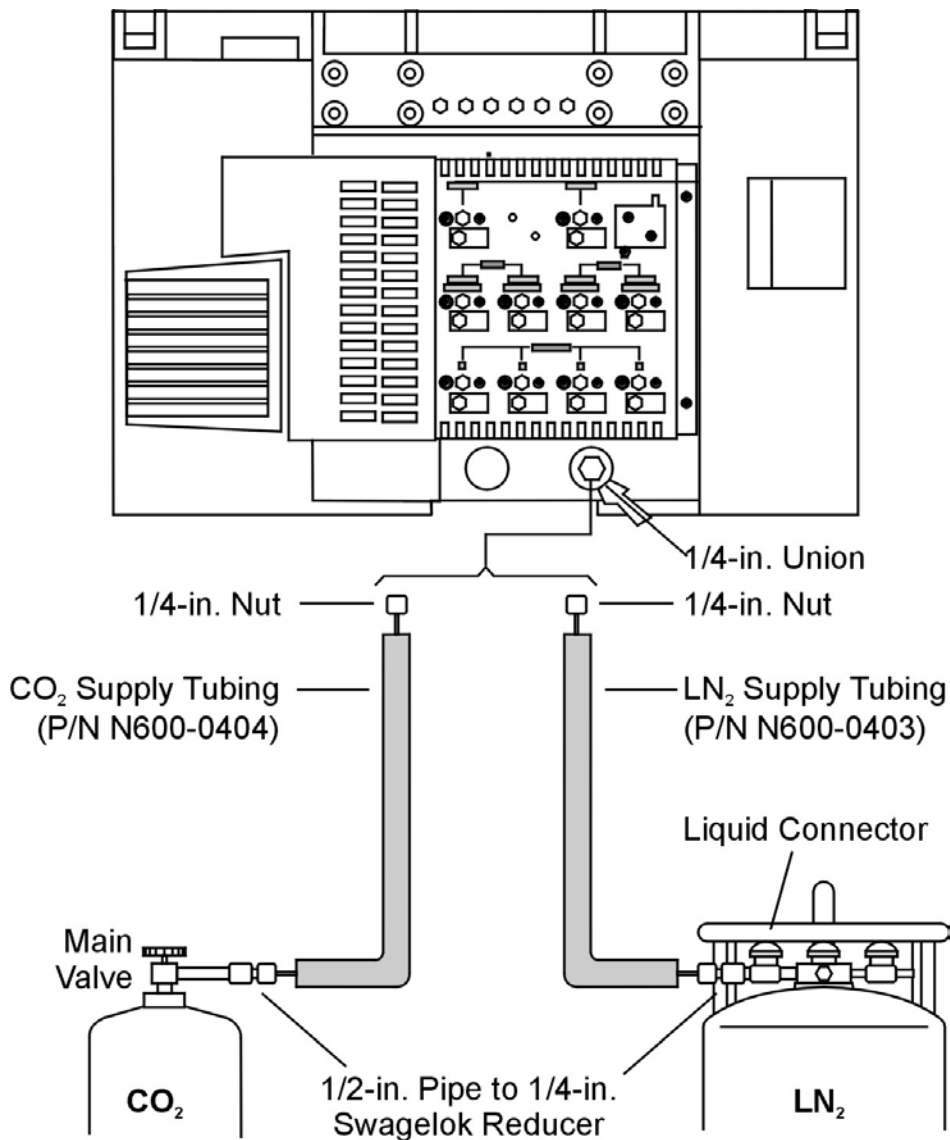

Figure 22. Connecting the CO₂ or LN₂ supply.
The LN₂ or CO₂ supply tubing connects the supply tank to the 1/4-in. union on the rear of the Clarus 500 GC. To install the supply tubing, select the procedure that corresponds to the subambient kit you are installing and refer to Figure 22.
3. Connect the 1/4-in. nut on the other end of the tubing to the 1/4-in. union (see Figure 22) on the rear of the Clarus 500 GC by turning the nut clockwise until it is finger-tight. To provide a leak-free connection, place a 9/16-in. wrench on the nut and a 1/2-in. wrench on the union, then tighten the nut an additional half-turn.